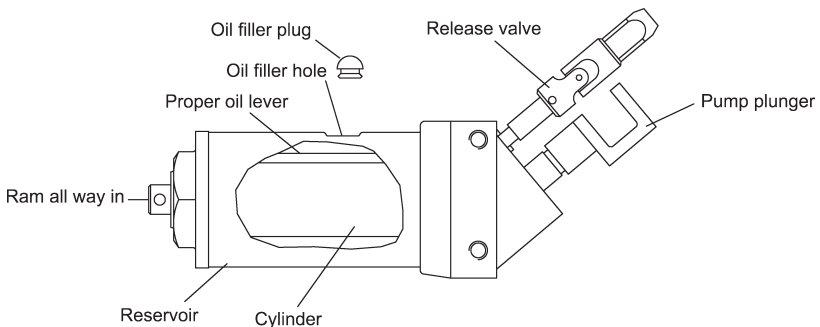

FIG. 5
- Check ram and pump plunger (Fig. 5) every few months for any signs of rust or corrosion. Clean as needed by wiping with an oily cloth.